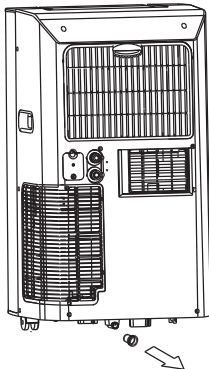

Fig.24
- When the water level of the bottom tray reaches a predetermined level, the unit beeps 8 times, the digital display area shows "P1" and the unit stop operation. Carefully move the unit to a drain location, remove the bottom drain plug and let the water drain away(Fig.24). Restart the machine until the "P1" symbol disappears. If the error repeats, call for service.
- When you plan to leave this unit unused for a long time, remove the bottom rubber plug from the back hole and attach a section of the continuous drain hose. All the water in the bottom tray would drain outside through the drain hose.(See Fig.24)